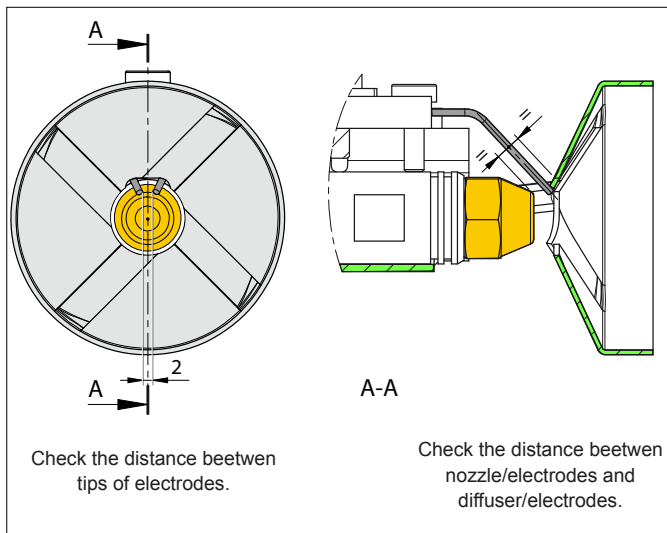

Figure 10-4: Ignition electrode settings
3. If the nozzle needs to be replaced – remove the diffuser/electrode assembly. Refer to Figure 10-4.
5. Re-fit the diffuser/electrode assembly. Refer to Figure 10-4. Re-connect ignition leads to electrodes.
6. Check/adjust the electrode setting. Refer to Figure 10-4. Always check the electrode settings after replacing the nozzle.
- Check/adjust the electrode setting. Refer to Figure 10-4.
8. Check/adjust the diffuser position. Refer to Figure 10-4.